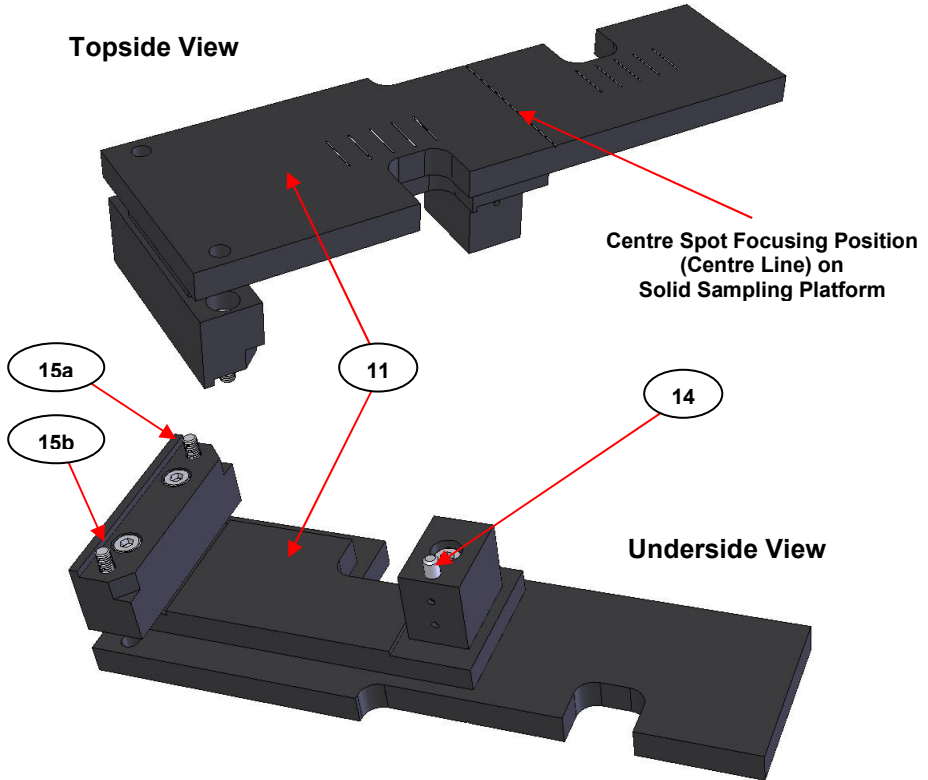

Fig 8. Solid Sampling Platform Assembly
The solid sampling platform assembly (11) is shown in **Fig 8.** as both topside and underside views.
incident angle of light to be focused to the sample surface and be specularly reflected for a correct optical geometry of beam passage through the Monolayer Grazing Angle accessory is directed to the **centre line** engraved marking seen on the topside view at **Fig 8**. The centre line is not exactly equidistant at 70mm for the 140mm length of the solid sampling platform (**11**) itself. (It is 80mm from one end and 60mm from the other.) This centre line does though represent the beam passage of light from the source (**S**) to the detector (**D**) as it would pass centrally over the solid sampling platform surface **if the light beam was not deflected** for its passage via the **M1, M2, M3** and **M4** mirrors on the butterfly arms (**1**). Therefore, the centre line can be used as a reference marker to find the centre of any sample for a length dimension to be positioned correctly on the solid sampling platform assembly (**11**). Central sample positioning helps to maximize for sample surface coverage of any focused incident angles of light beams that are created for total light beam passage through the accessory.
For fixing of the solid sampling platform assembly (**4**) to the height adjustment mechanism (**12**), there is a single fixing dowel pin (**14**) and two M3 x 12mm cap head (**15a** and **15b**) (captive) screws used as shown for the underside view from **Fig 8**.